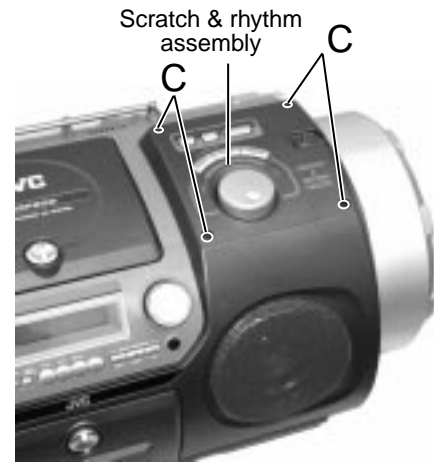

Fig.3
■Removing the scratch & rhythm assembly (See Fig.3 and 4)